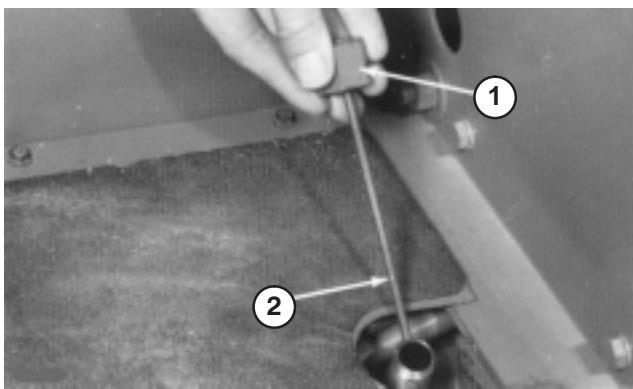

Figure 26
2. Unscrew dipstick cap (Fig. 26) from the filler neck and wipe it with a clean rag. Screw dipstick cap finger tight onto filler neck. Unscrew the dipstick and check level of fluid. If level is not within 1/2 in. (13 mm) from the groove in the dipstick (Fig. 26), add enough fluid to raise level to groove mark. **Do not overfill** by more than 1/2 in. (13 mm) above groove.